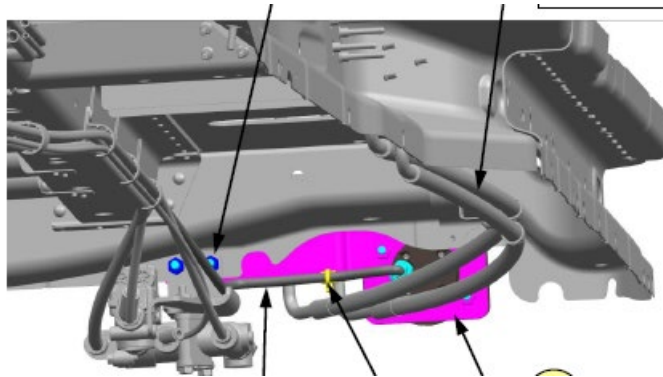

Fig. 21, Harness Connected to Battery Cutoff Switch
12. Connect the harness to the backside of the switch as shown in **Fig. 21**.